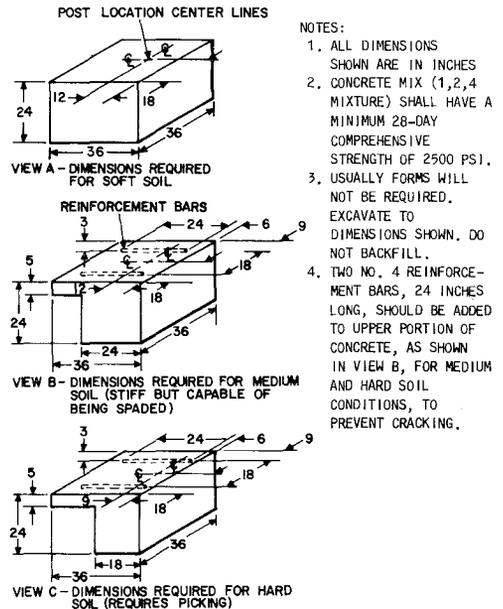

Fig. 24—Concrete Foundation Requirements For List 52 Buried Base
- (1) Excavate soil to the dimensions shown in Fig. 24.